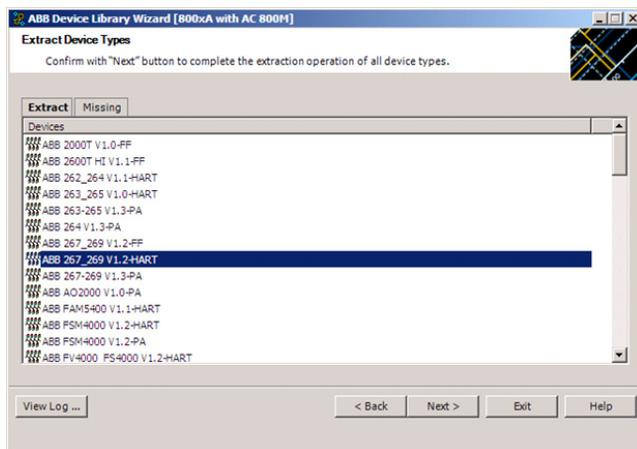

Figure 27. Extract Device Type Files
9. The Device Library Wizard scans the 800xA System for fieldbus device types that are already used and compares the results with the contents of the DVD. Device Types available in the 800xA System and the DVD are shown in the **Extract** tab of the Device Library Wizard (Figure 27).